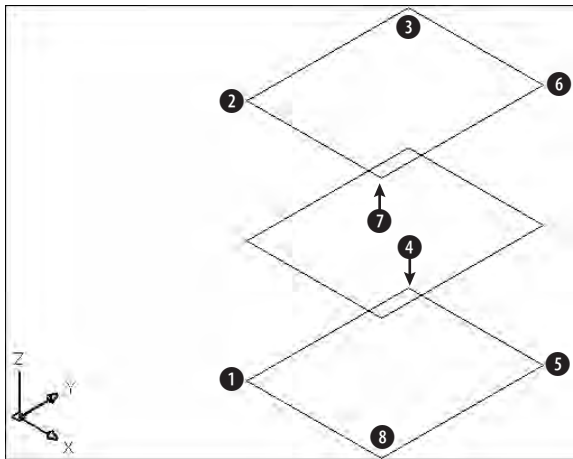

Figure 23-6: The three 3D faces from an isometric viewpoint
5. Choose View ⇨ 3D Views ⇨ SE Isometric. Your drawing should look like Figure 23-6. You now have the top, bottom, and the middle shelf of the cabinet.
Specify first point or [Invisible]: Pick the endpoint at ❶ in Figure 23-6.
7. To draw the door of the cabinet, change the current layer to CONST. Start the LINE command and draw a line from 2 in Figure 23-6 to @18<225. End the LINE command. Now start the COPY command and copy the line from 2 to 1. These two construction lines frame the door.
Specify point on positive portion of X-axis <-0'-5 3/4",-0'-6 3/4",0'-0">: *Pick 1 in Figure 23-6.*